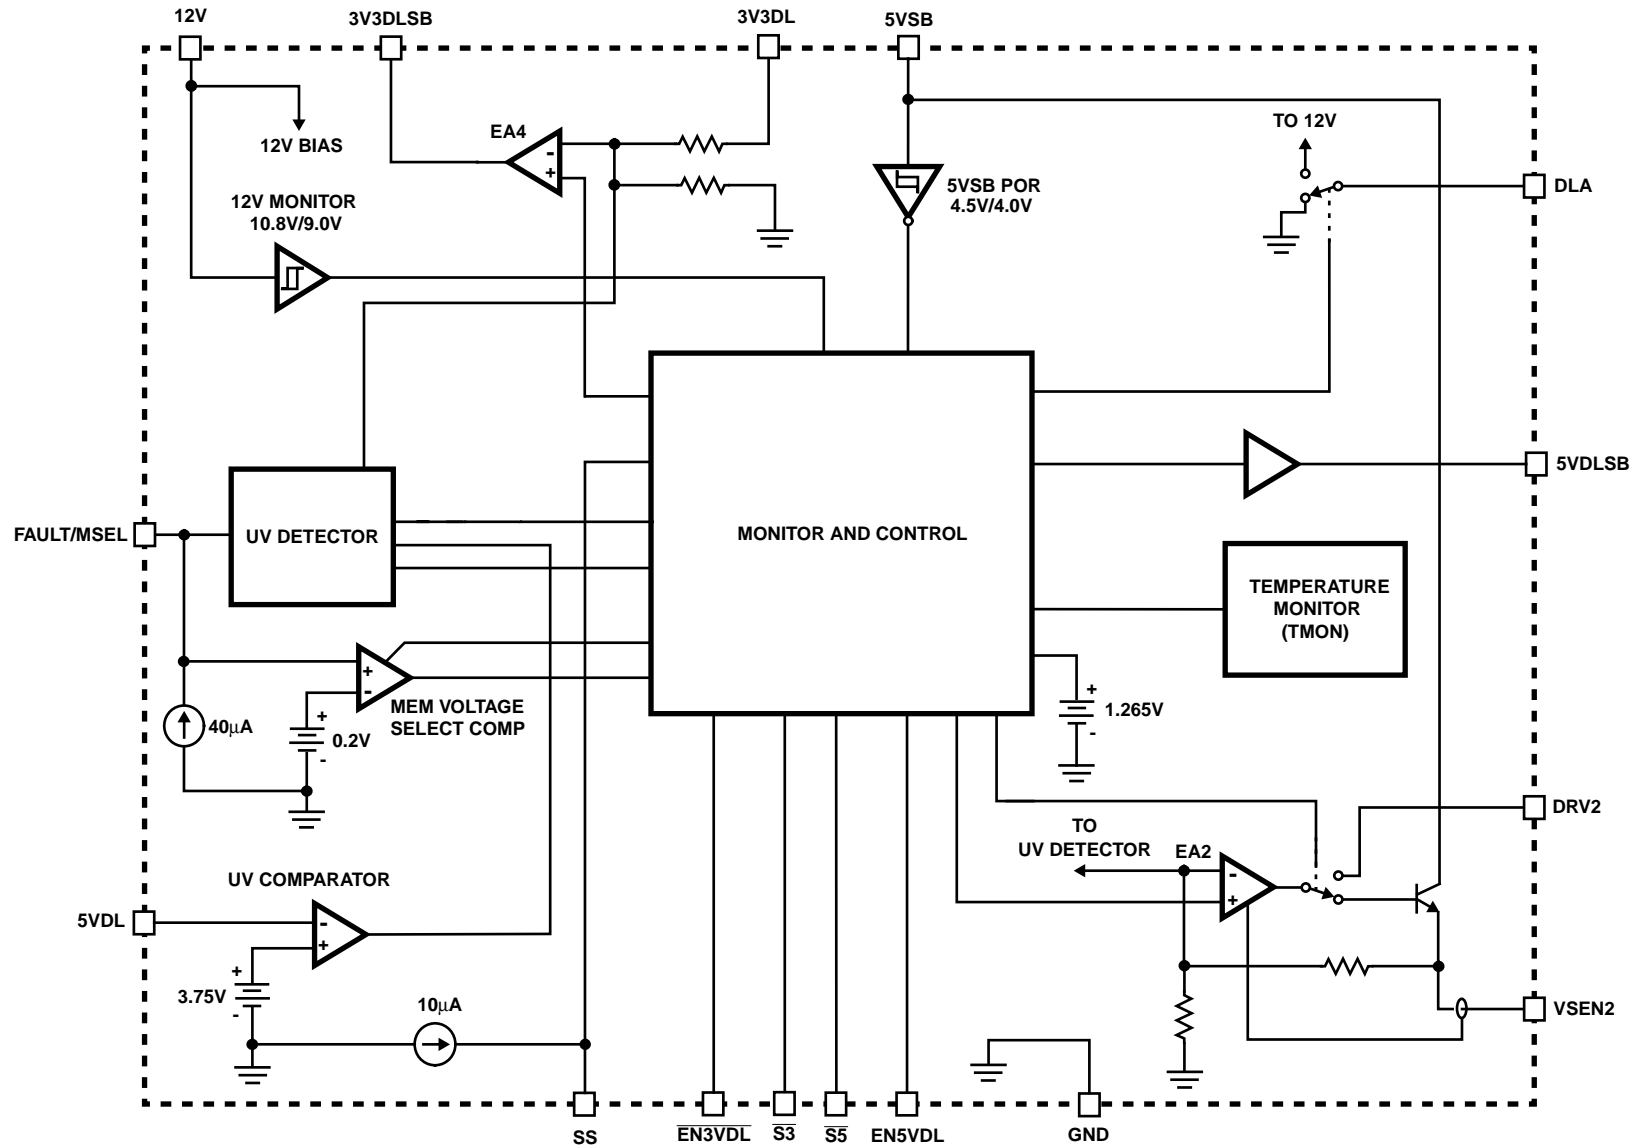

FIGURE 1.
## Electrical Specifications Recommended Operating Conditions, Unless Otherwise Noted; Refer to Figures 1, 2 and 3
**Electrical Specifications** Recommended Operating Conditions, Unless Otherwise Noted; Refer to Figures 1, 2 and 3 (Continued)